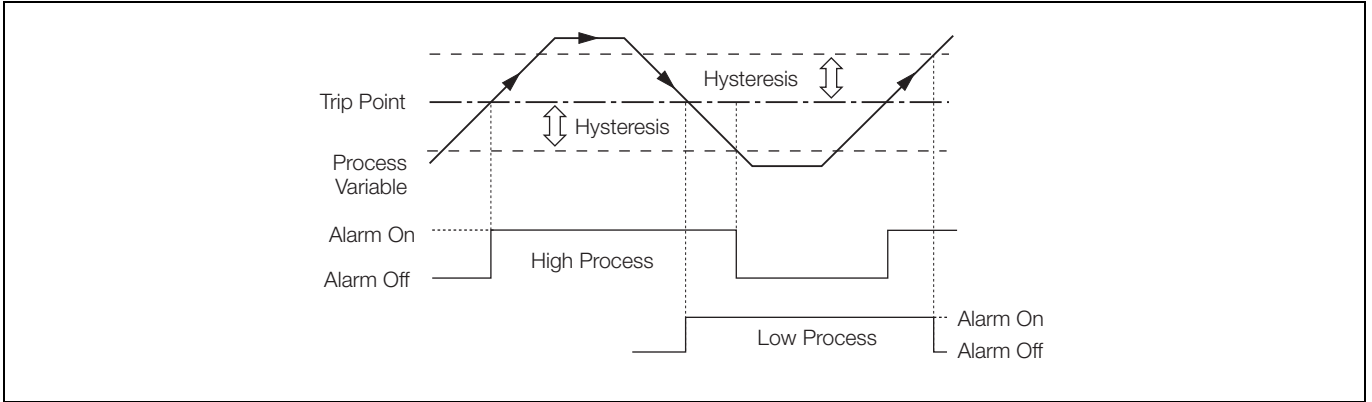

Fig. 6.11 High/Low Process Alarms
- High/Low process – see Fig. 6.11, page 81
Note. Process and Latch alarms only – see Figs 6.11 and 6.12.